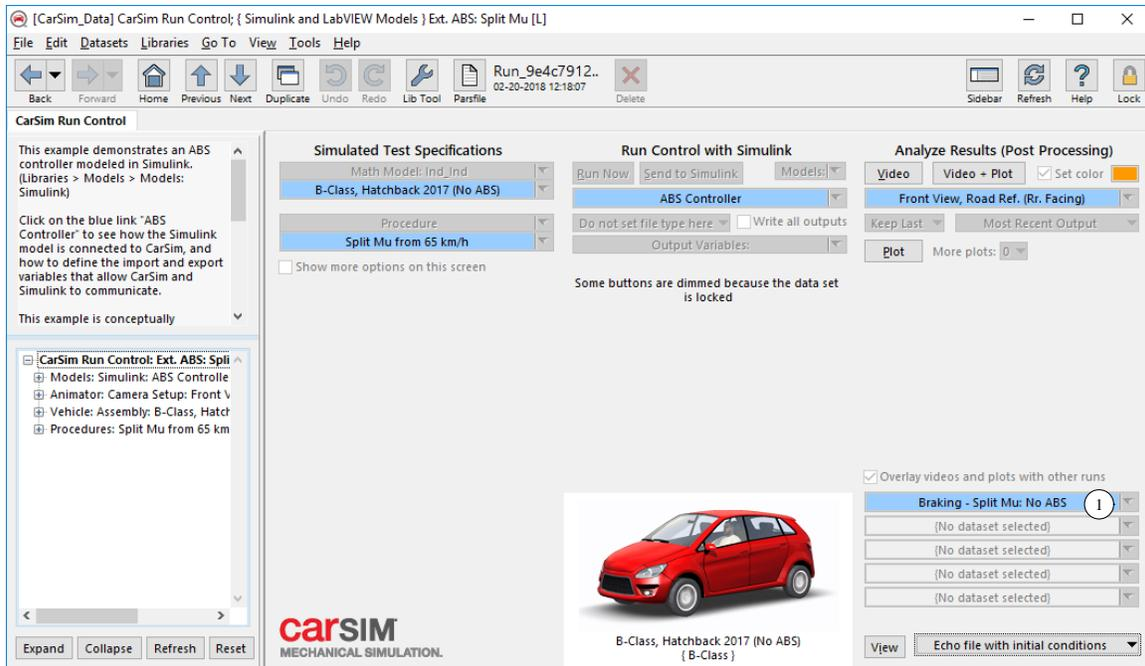
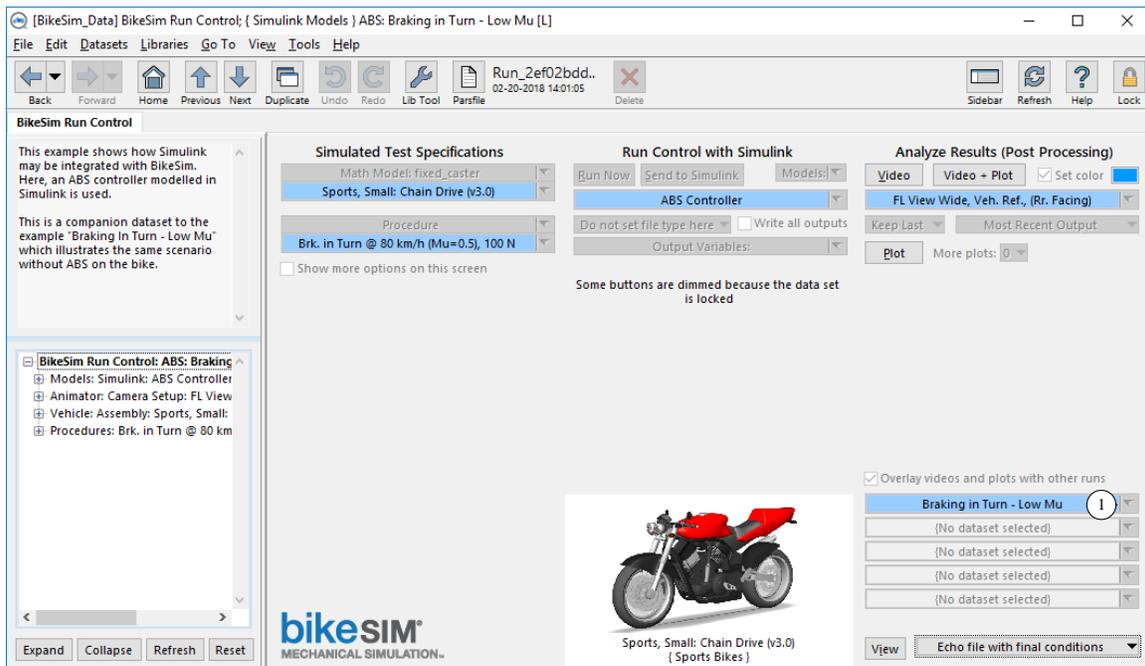

Figure 1. Run Control screen for ABS test on a split-mu surface.
Figure 2. Run Control screen for BikeSim ABS test in a turn.
The tutorial is based on an example Simulink ABS model that is used for several examples in the databases provided with each product. The installed **Run Control** library has a category that includes Simulink runs (it is named **Simulink and LabVIEW Models** in CarSim and TruckSim, and **Simulink Models** in BikeSim). Within that category, there are some ABS examples. In CarSim and TruckSim, there is an example named **Ext. ABS: Split Mu** (Figure 1). For BikeSim, look for the example **ABS: Braking in Turn – Low Mu** (Figure 2).
1. Viewing the dataset for the Simulink ABS example (Figure 1 or Figure 2), click on the blue link for the **Run Control** dataset used for the overlay (1) to view that dataset. In CarSim and TruckSim, this is a dataset with the title **Braking – Split Mu: No ABS**; in BikeSim it is named **Braking in Turn – Low Mu**.